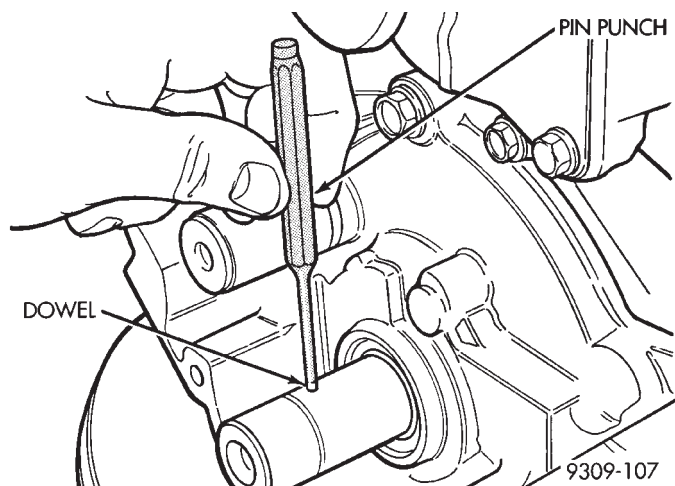

Fig. 79 Crankshaft Sprocket Dowel Pin—Removal/Installation
(3) Tap the dowel pin out of the crankshaft (Fig. 79).
(2) Install the dowel pin into the crankshaft to 1.2 mm (0.047 inch.) protrusion (Fig. 79).